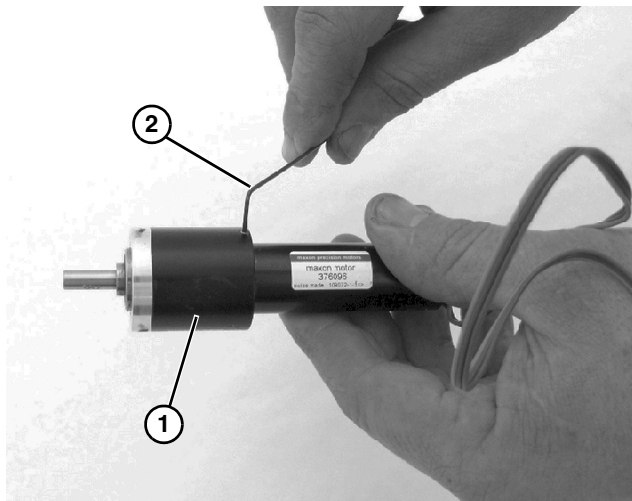

Figure 2
1. Loosen and remove M2.5 set screw from old gear reducer (**Figure 2, item 1**) using 0.050" hex key wrench (**Figure 2, item 2**) provided.